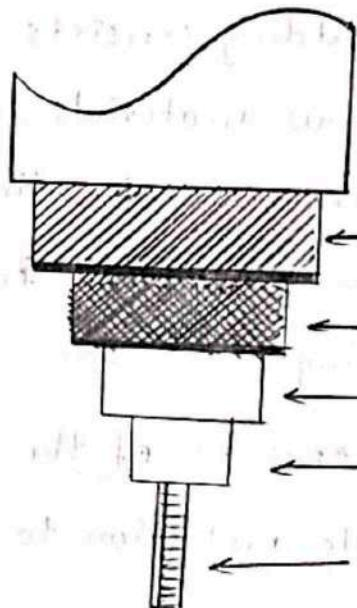

Fig. 8.12.1 General construction of a cable.
- \* The fig. 8.12.1 shows the general construction of a cable. The cable shows is single conductor underground cable- Its various parts are,